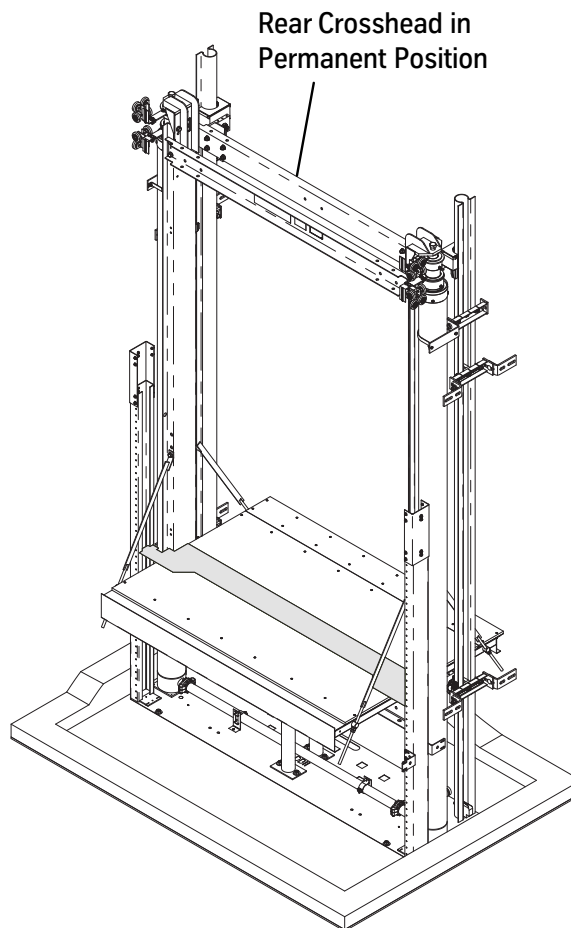

Figure 40 - Rear Crosshead Permanent Position
1. With the car at the first landing, remove the rear crosshead channel from the stiles, and raise it up to its permanent location at the top of the stiles. See Figure 40.